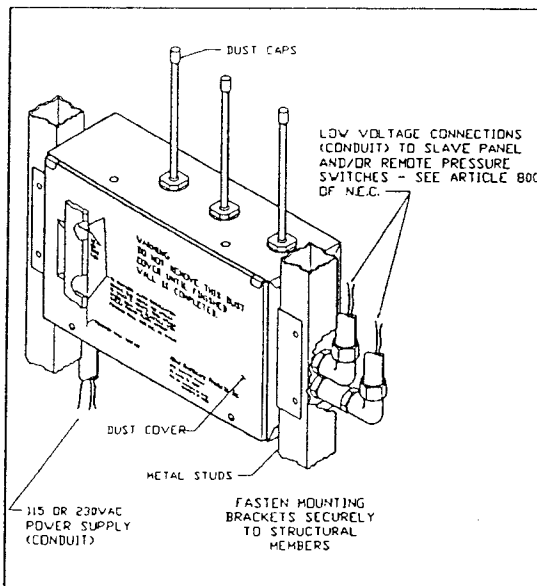
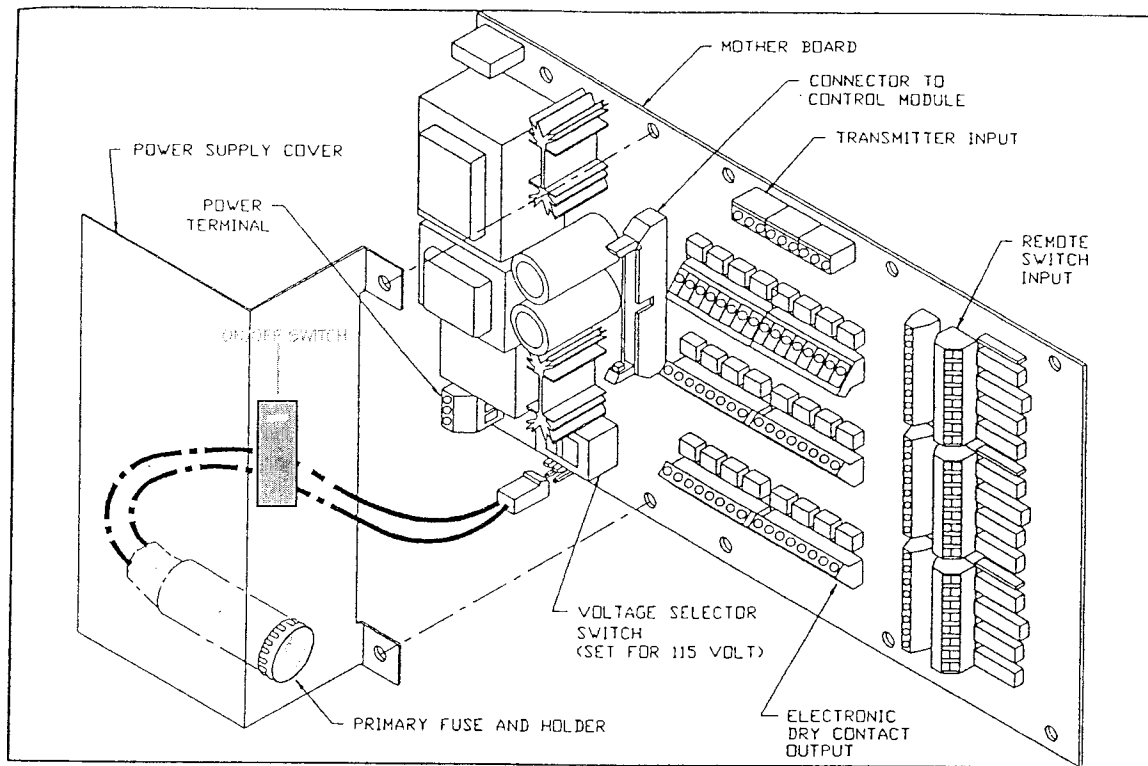

Figure 7 - Box Installed In Wall
Figure 9 – Mother Board and Power Supply Cover
- 4.1.2 Install the back box at the specified height in a rough-in wall (see Figure 7). Fasten it securely to the wall framing. **Make sure the box is parallel, squared and flush with the finished wall surface.** The contractor is reminded to coordinate with other trades in anchoring alarms rigidly into the wall. **It is not sufficient to simply grout them in.**
Insure that the primary fuse is not installed. If fuse is installed, remove by pushing in on switch handle and rotating counterclockwise then pulling out (see Figure 9). **Do not** install the primary fuse until after the Front Panel is connected.
- 4.2.9.1 Bring 115 or 230 volts AC line to the left bottom side of the Back Box (see Figure 7) and connect conductors to: Hot side to terminal 1 of the Power Input; Neutral side to terminal 3 of the Power Input Terminal Block and Ground to the grounding post or terminal 2 (see Figure 9 and 19). **Electrical supply should be from the standard and essential electrical system, life safety branch.** Verify that the Selector Switch is set for proper voltage (see Figure 9).
- 4.2.10 Connect the primary fuse connector to the plug (see Figure 9) on the Mother Board. Replace the Power Supply Cover. Do not replace the primary fuse until after the Front Panel has been connected.